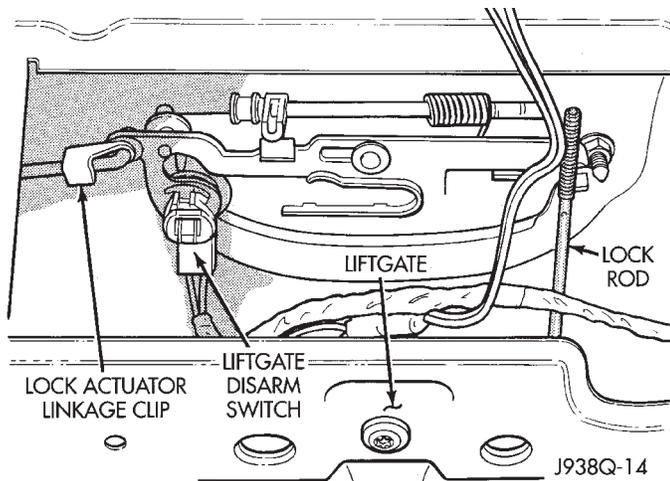

Fig. 12 Liftgate Lock Cylinder Switch Remove/Install
(5) Remove the lower liftgate trim panel from the vehicle.
(6) Pry the liftgate lock cylinder switch off of the back of the lock cylinder (Fig. 12).
(7) Unplug the lock cylinder switch wire harness connector and remove the switch from inside the liftgate.
(8) Reverse the removal procedures to install. Tighten the mounting screws to 2.2 N-m (20 in. lbs.).